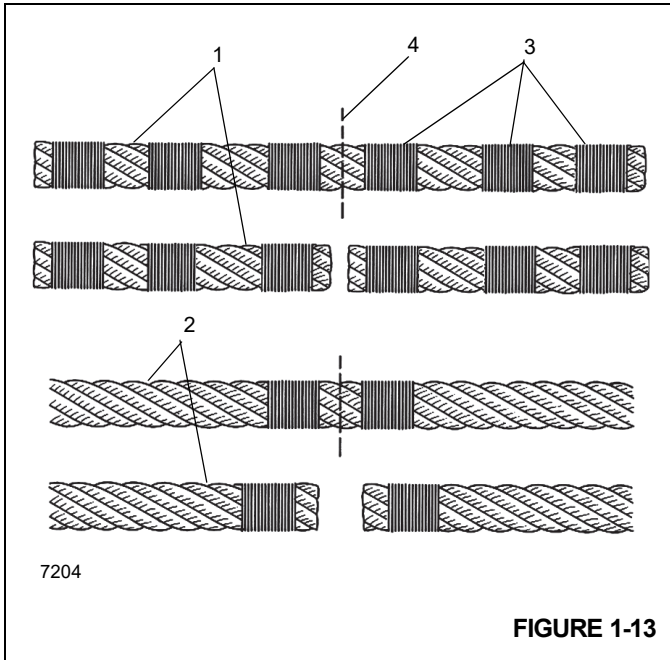

FIGURE 1-13
NOTE: Non-preformed wire rope (1) (Figure 1-13) should have three seizings (3) located on each side of the cut (4) as compared to preformed wire rope (2).